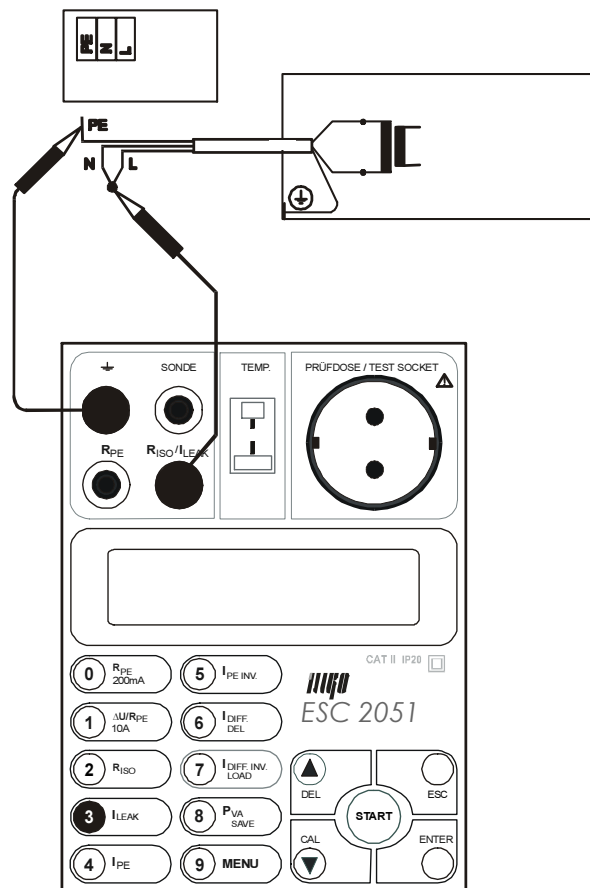

Fig. 9
- Connect test lead P 2011 with test tip P 3011 or with crocodile clip P 4011 to **R_{ISO} / I_{LEAK}** terminal and test lead P 2012 with test tip P 3012 to $\overline{\text{PE}}$ terminal (Fig. 9).